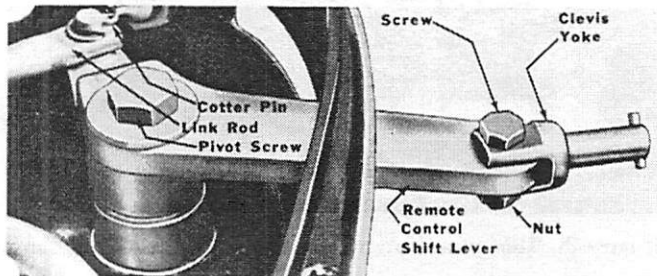

Figure 1. Remote Control Shift Lever
2. Remove screw and nut which fasten clevis yoke to remote control shift lever and remove clevis yoke. (Figure 1)
3. Remove cotter pin and washer which fasten link rod to shift lever. (Figure 1)
4. Remove shift lever pivot screw and remove shift lever, bushing and 2 flat washers from cowl. (Figure 1)